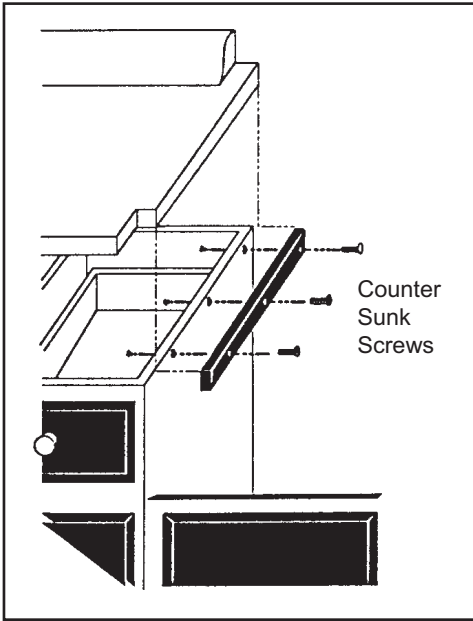
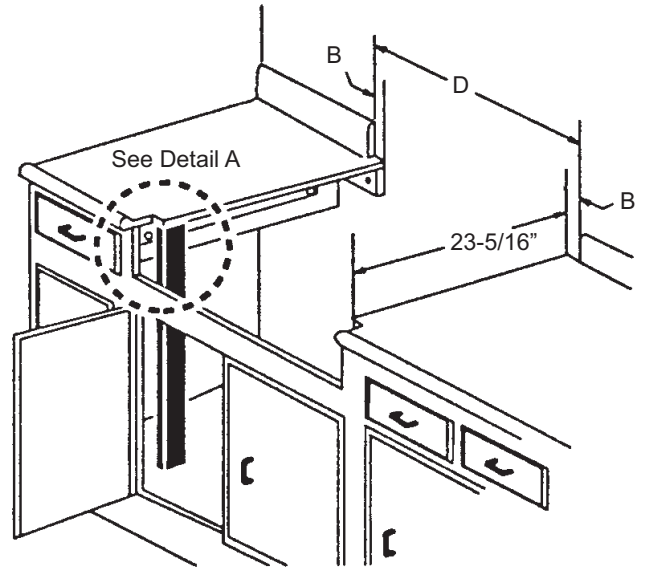

Figure 2: Installing Side Supports (both sides)
Figure 3: Wall Installation with Countertop Backsplash
3. The cooktop is designed to hang from the countertop by its side flanges. The countertop however, must be strong enough to support this cooktop. It may be necessary to add a supporting cleat along each side (see Figure 2) or a 2 x 4 corner brace (see Figure 3 and Figure 4 and Detail A). Another alternative would be to construct a deck to set the cooktop on.
4. The cooktop can be installed in various positions with the front either flush or projecting, depending on the countertop's depth. (See Figure 5, side view of cooktop; see Figure 3, Figure 4, Figure 6 and Figure 7 for alternate mounting positions.)
- Wall installation, see Figure 3.
- If a solid side cabinet wall exists on one or both sides, you will need to notch the front corner of the cabinet to match the countertop notch and to allow clearance for the cooktop front (see Detail A, Figure 3 and Figure 4).